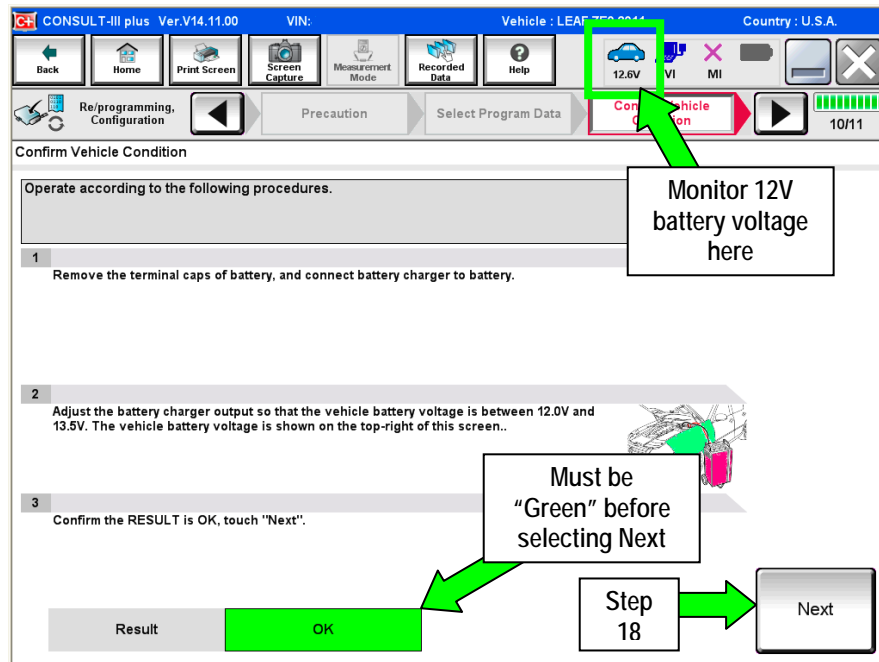

Figure 13
- If no **Saved Data List** is stored, Figure 13 on the next page will be displayed.